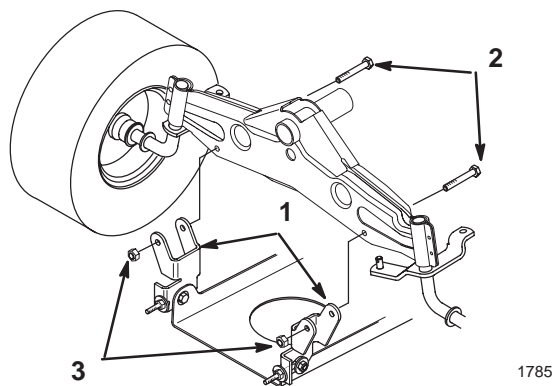

Figure 18
8. Remove the bolts and lock nuts and pull the two mower pivot mount brackets down from the front axle (Fig. 18).